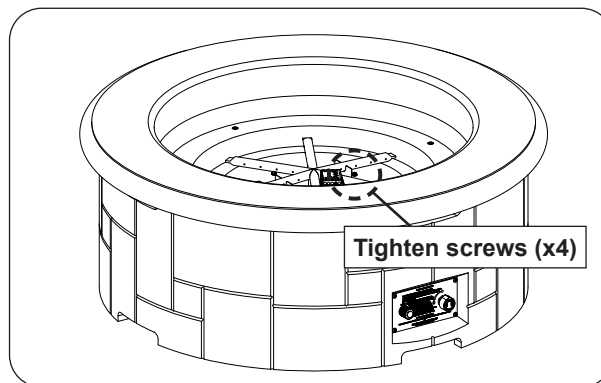

Fig. 36-3 Install burner
2. Use a $\frac{5}{16}$ " nut driver to fasten the burner to the base (see Fig. 36-3).